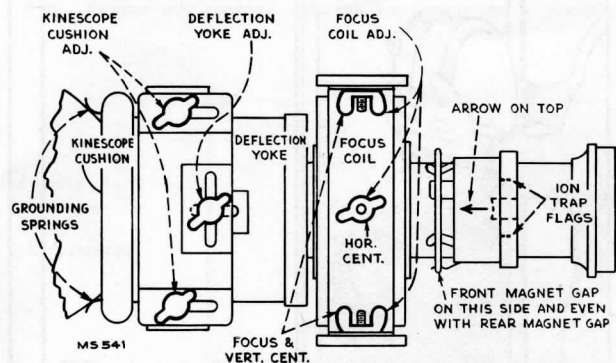
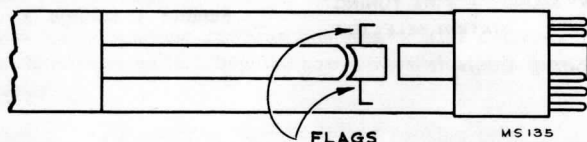

Figure 3—Yoke and Focus Coil Adjustments
Figure 4—Ion Trap Flags
Loosen the two kinescope cushion adjustment wing screws and slide the cushion toward the rear of the chassis. Loosen the deflection yoke adjustment, slide the yoke toward the rear of the chassis and tighten. See Figure 3 for the location of the cushion and yoke adjustments.
**INSTALLATION OF KINESCOPE**—The kinescope second anode contact is a recessed metal well in the side of the bulb. The tube must be installed so that this contact is approximately on top. The final orientation of the tube will be determined by the position of the ion trap flags. Looking at the kinescope gun structure, it will be observed that the second cylinder from the base inside the glass neck is provided with two small metal flags, as shown in Figure 4. The kinescope must be installed so that when looking down on the chassis, the two flags will be seen as shown in Figure 3.
Early production receivers employed an EM type ion trap magnet like that in the model 630TS receiver. Late production receivers employed a PM type magnet as shown in Figure 3.
If the PM type is employed, slip the assembly over the neck of the kinescope with the large magnet towards the base of the tube and with the arrow on the assembly up as shown in Figure 3. The front magnet is movable on the assembly. The correct position is with the gap of the front magnet to the left (from the rear of the chassis) and even with the gap of the rear magnet.
**ION TRAP MAGNET ADJUSTMENT**—The ion trap rear magnet poles should be placed over the ion trap flags as shown in Figure 3. Starting from this position adjust the magnet by moving it forward or backward at the same time rotating it slightly around the neck of the kinescope for the brightest raster on the screen. Reduce the brightness control setting until the raster is slightly above average brilliance. Adjust the focus control (R129 on the chassis rear apron) until the line structure of the raster is clearly visible. Readjust the ion trap magnet for maximum raster brilliance. The final touches on this adjustment should be made with the brightness control at the maximum position with which good line focus can be maintained.